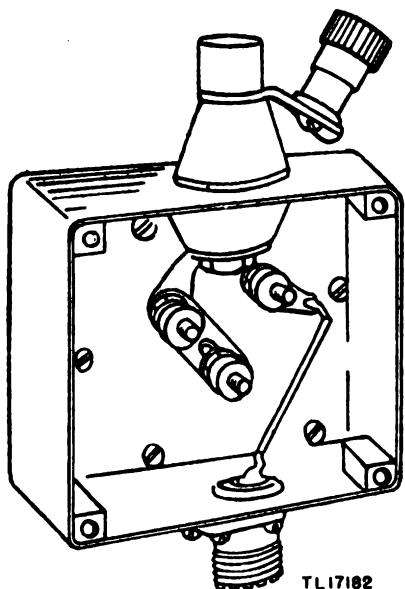

Figure 30. Terminal Box TM-218, link in position for Antenna AN-29-C or wire antenna.
e. If the box is to be used with Cord CG-67/MRQ-2, set the change-over link in the manner shown in figure 13. If the box is to be used with Antenna AN-29-C or with 3 feet of Wire W-128 to Mast Base AB-15/GR, or MP-48-( ), set the change-over link (fig. 30). Replace the cover of the terminal box and fasten with the four screws.